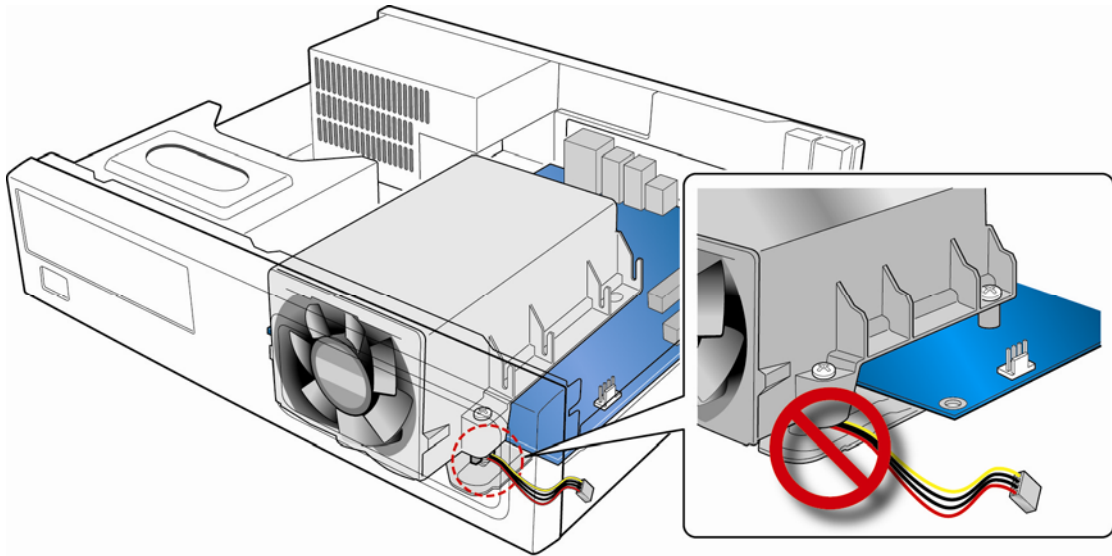

Figure 13. Use Care Routing the Thermal Module Fan Cable
3. Make sure not to pinch the Thermal Module Fan cable between the Thermal Module and the desktop board or SRM (see Figure 13).